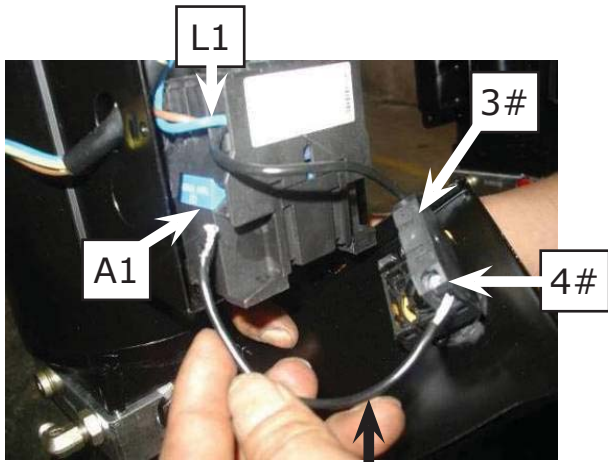
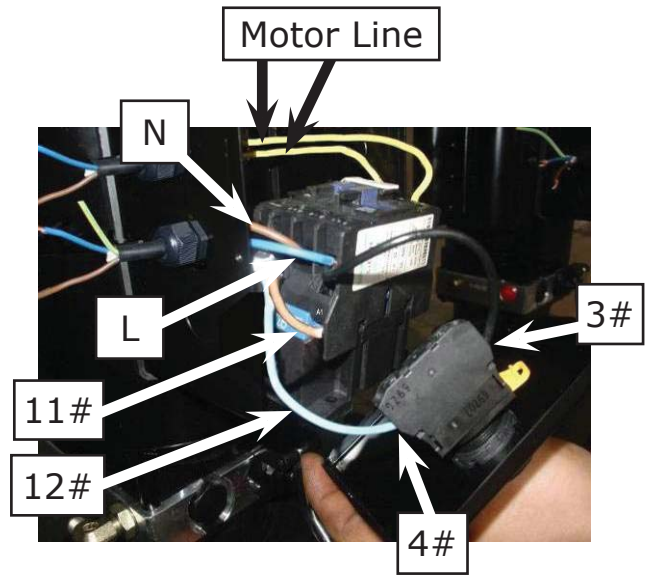

Fig. 28
Fig. 29
4. Connecting the Limit Switch: Removing the wire of connecting terminal 4# on control button and terminal **A1** on AC contactor firstly (See Fig. 28), then connecting wire 12# (brown color) of the limit switch with terminal 4# of the control button and connecting wire 11# (blue color) with terminal **A1** on AC contactor respectively. Connecting the earth wire (green and yellow color) of the limit switch with earth wire terminal on power unit. (See Fig. 29).